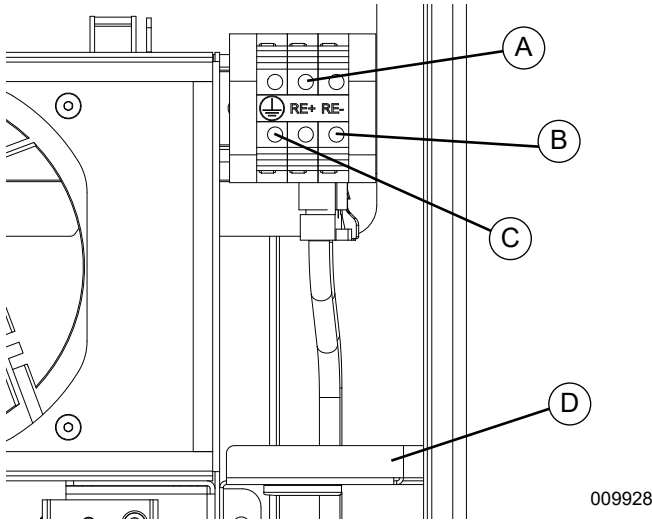

Figure 4-4. REbus Wiring
1. See Figure 4-4. Install REbus conductors to their terminal blocks: RE+ to red (A), RE- to blue (B).
2. Install equipment grounding conductor to green terminal block (C).
3. If required, route field wiring conductors through the grommet wiring chase baffle (D).